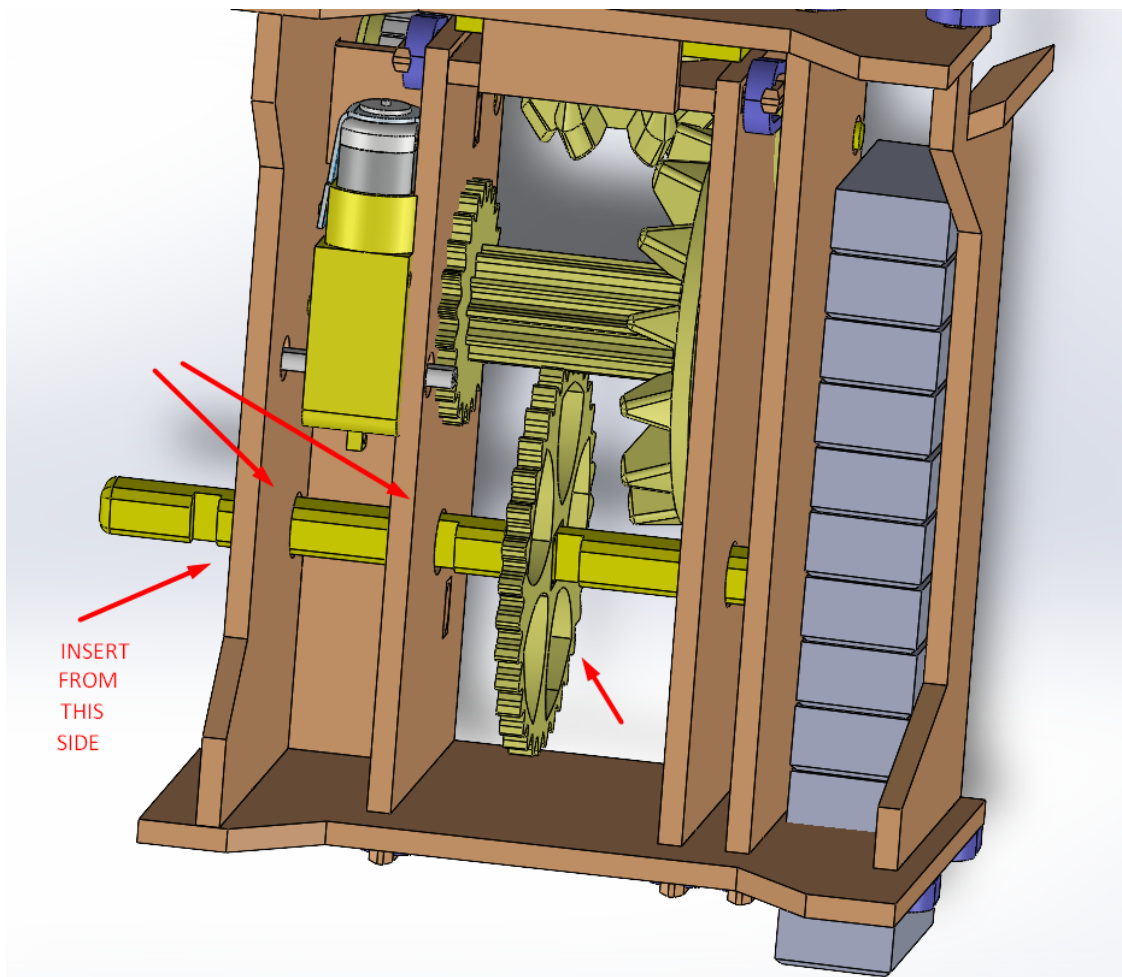

FIGURE 16
STEP 13: Now we move onto finishing the moving mechanisms, we take the axis numbered 15 as well as the thin large gear numbered 14, we pass the axis through the designated holes which are lined up already, but as we pass the axis through the middle room, we slide the thin gear number 14 through it, as seen in figure 16.
Notice the axis has three grooves cut into it, make sure the side with the two grooves closest to each other goes first as seen in figures 16 and 17.